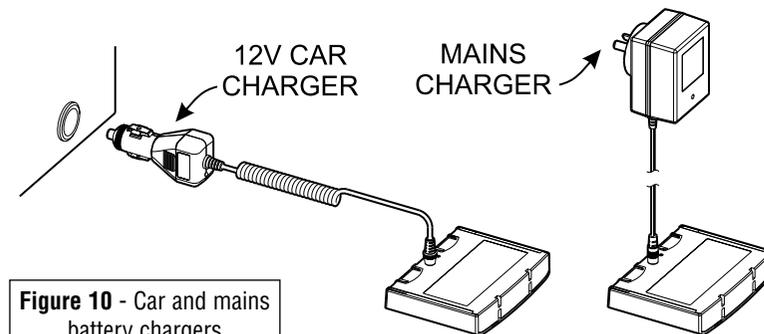

Figure 10 - Car and mains battery chargers
d) Place 8 "AA" alkaline batteries (17) into the base of the alkaline pack (16). Ensure they are aligned as shown in figure 10 and as indicated inside the compartment.